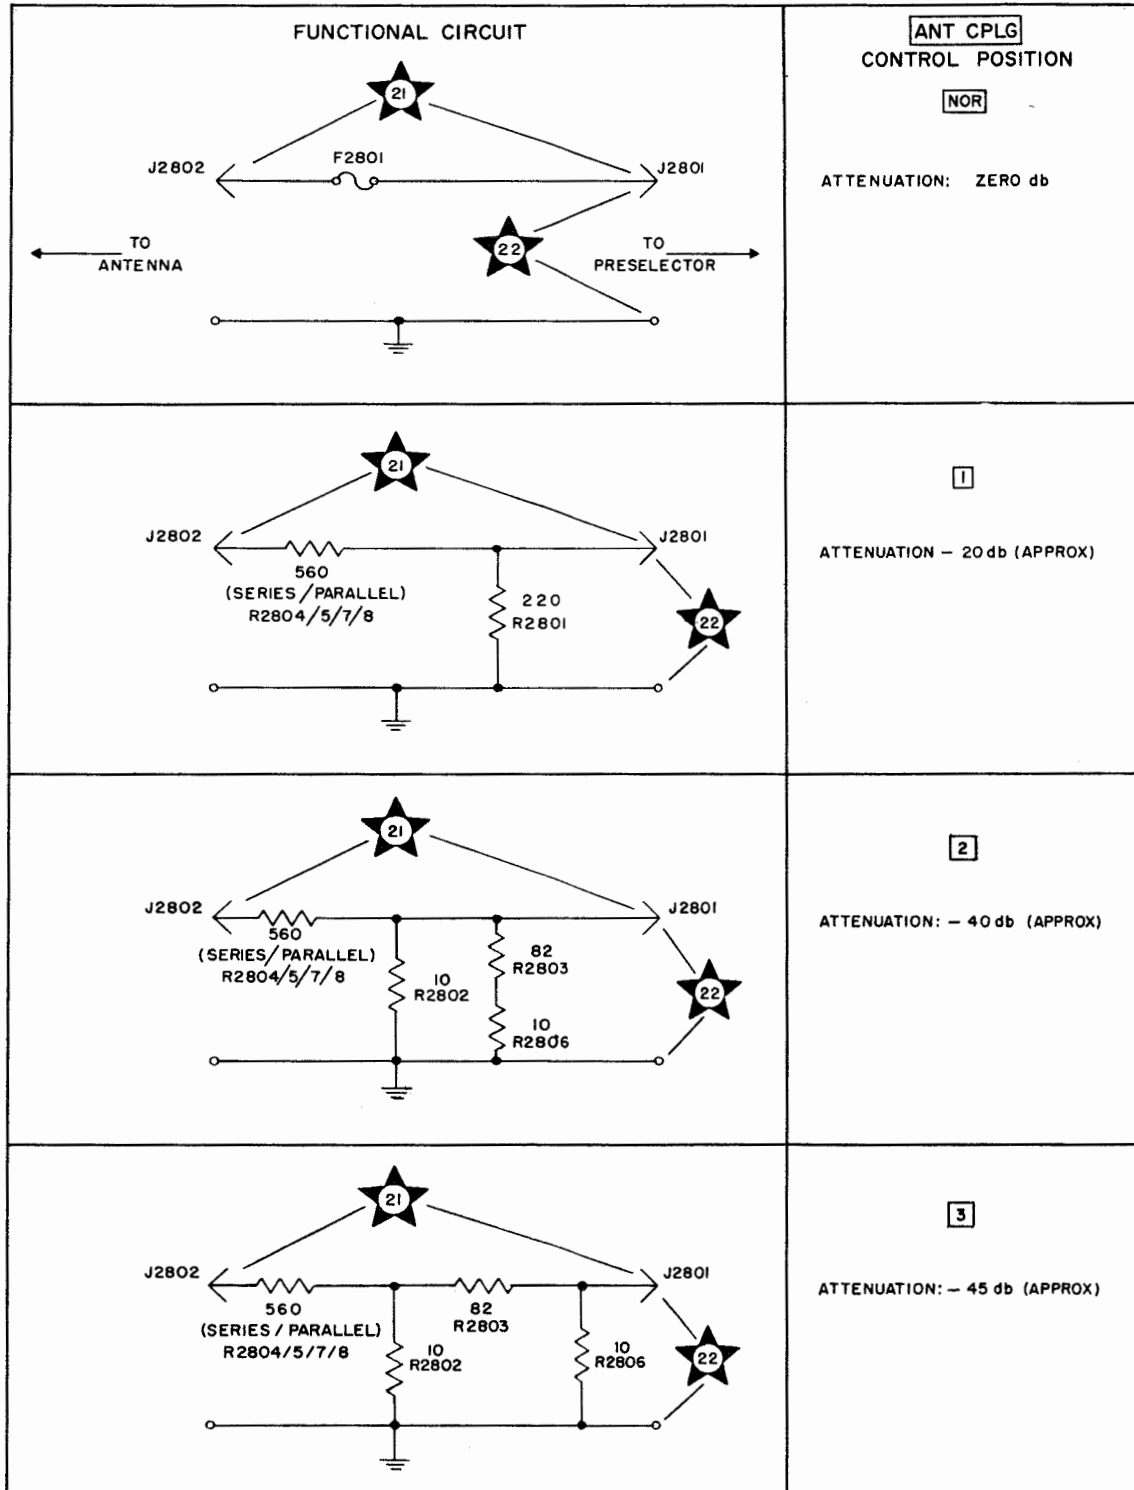

Figure 5-8. Antenna Coupler, Functional Schematic Diagram
a. FUNCTION.—The antenna coupler provides three steps of signal attenuation at the input of the receiver. It also contains a protective fuse (F2801) in series with the antenna circuit. Faulty coupler operation will reduce the strength of the signal, with the coupler in NOR. position a blown fuse will cut off the signal entirely, preventing reception. Figure 5-8 is a functional sche-
e. ANTENNA COUPLER TROUBLE-SHOOTING.—Figure 5-8 shows separate functioning circuits for each position of the ANT. CPLG. switch. Disconnect